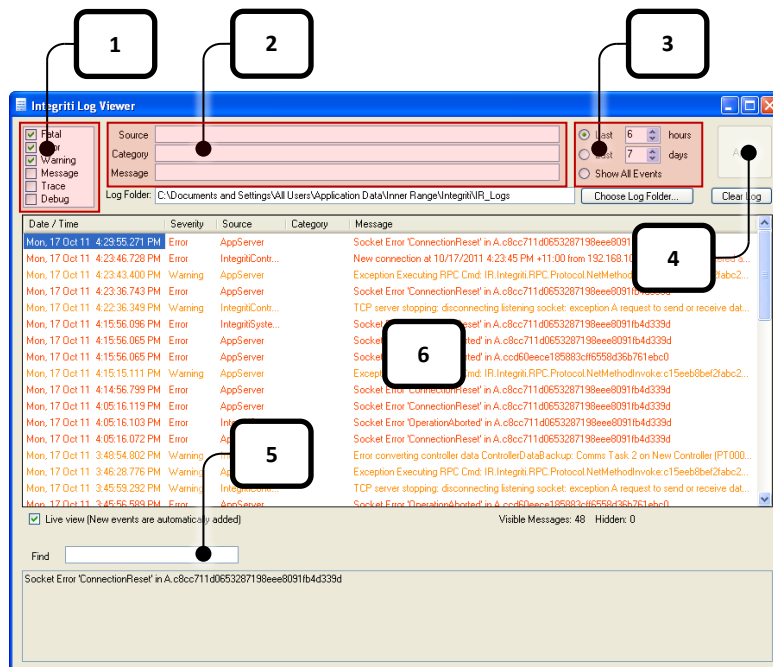

Figure 109
1. Ensure the Error checkbox is ticked. Un-tick the other checkboxes. (*Figure 109*)